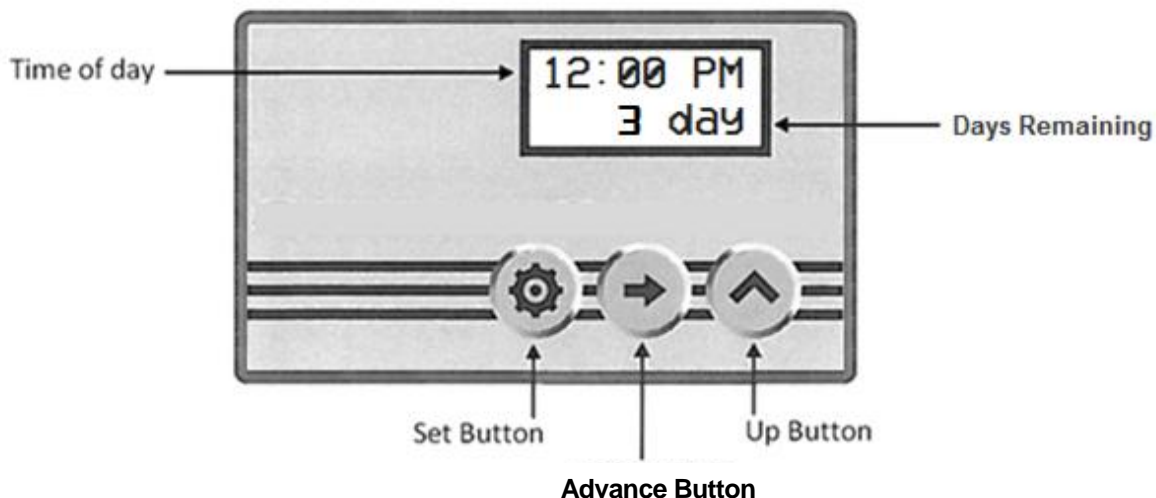

FIGURE 6: OXY3E Display Panel
- OXY3E units are in service when the time of day is displayed above the gallons remaining (see figure 6, page 11).
For the OXY3E hold down the middle (Advance) button (figure 6, page 12) until "GO TO BW" is displayed. Once the unit is counting down the backwash cycle time, immediately unplug the control valve from the power outlet and leave the unit in backwash until the drain water runs clear. Then, plug the control valve into the power outlet again and press the middle (Advance) button briefly, "GO TO DR" will display. Allow the regeneration cycles to complete automatically before continuing to step 14.